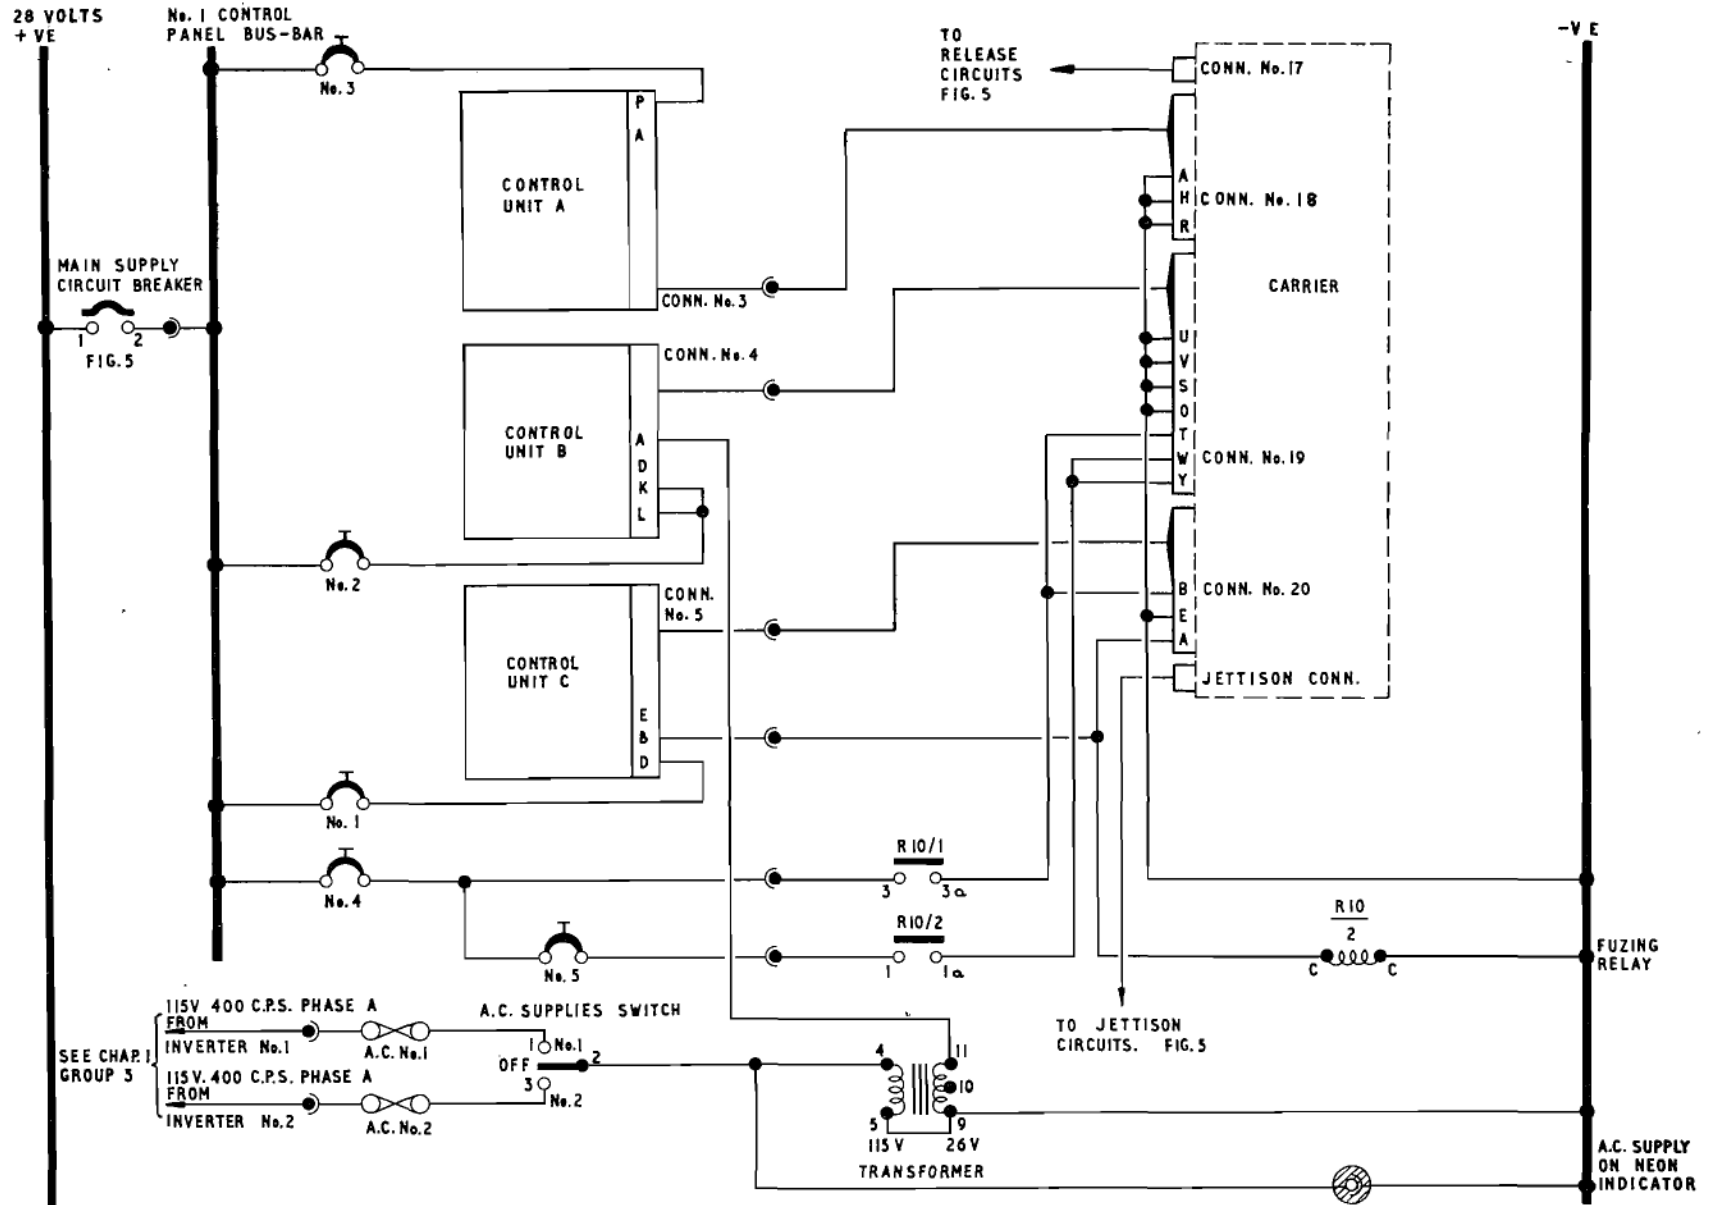

Fig. 10. No. 1 control panel role bomb control and fuzing (Mods. 2612, 2645, 2646 or 2725 and 2609)
Control and Fuzing (fig. 10)
A.C. Supply (fig. 10)